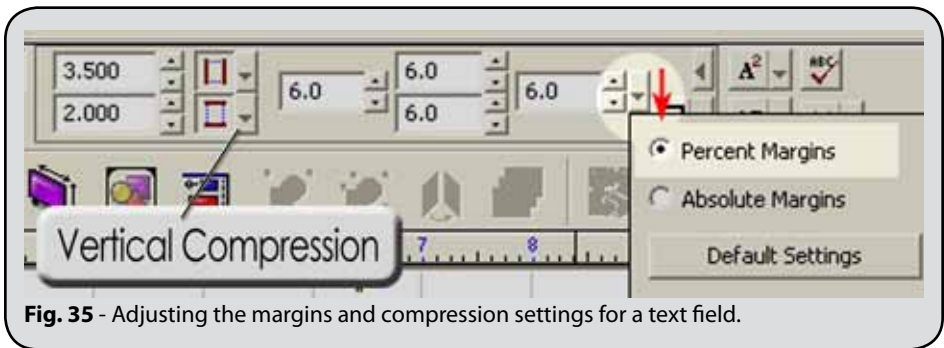

Fig. 35 - Adjusting the margins and compression settings for a text field.
15. Click the **Vertical Compression** button (Fig. 35) to open the **Vertical Compression** dialog.